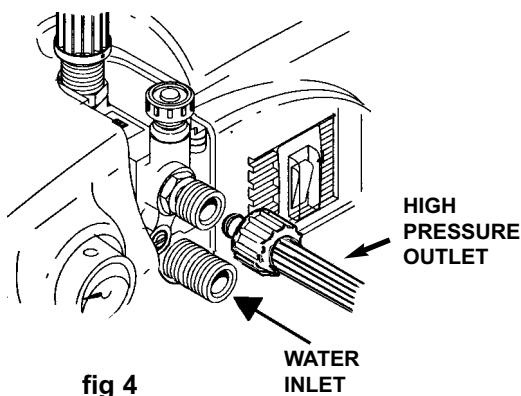

fig 4
- 3.2.3. Connect the high pressure hose to the top water outlet on the washer (fig 4).
- 3.2.4. Connect the water supply hose to the bottom water inlet on the washer (fig 4).